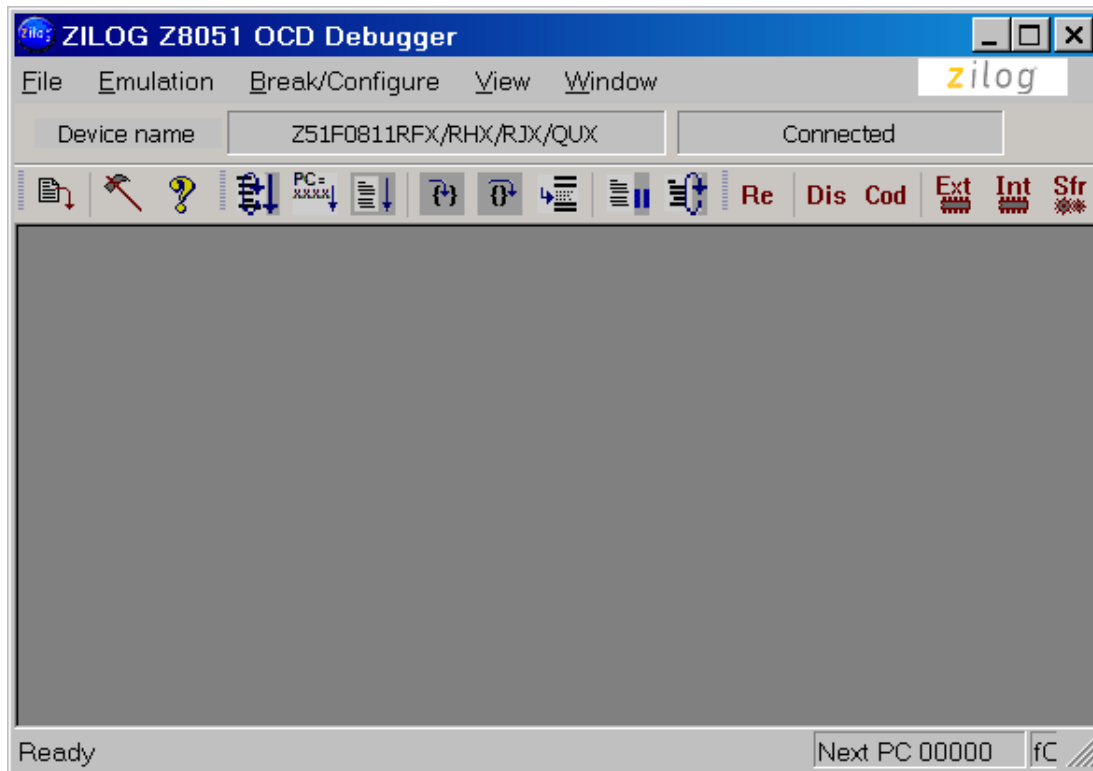

Figure 10. Initial OCD Screen
4. Run the Z8051 OCD software. From the **Start** menu, navigate to **All Programs** → **Zilog Z8051 Software and Documentation <version_number>** → **Zilog Z8051 OCD <version_number>**. Once launched, the program will display *Connected*, as shown in Figure 10.